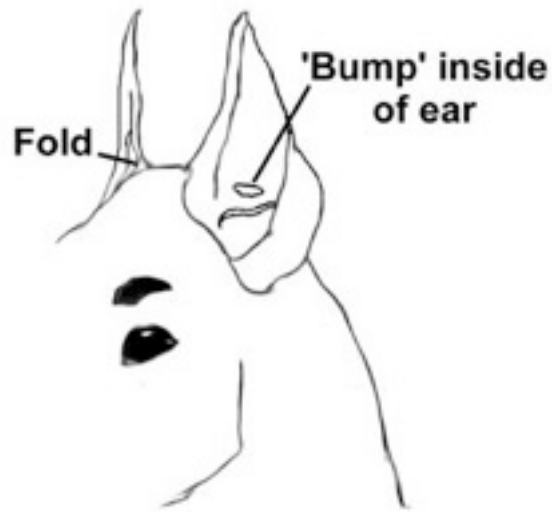

Figure 1
1. Foam pipe insulation, available at any hardware store. Cut these long enough to reach from the top of the "bump" (Figure 1) of the ear to just past the ear tip. Then cut lengthwise so that each appliance will be about 1 inch wide. Remove the plastic strip that protects the sticky side of the insulation.
Clean the ears well with alcohol and dry thoroughly. Next, using a couple Q-Tips, paint the ear with the Benzoin compound. Paint the inside of the ear from the "bump" (See Figure 1) to the tip. Paint the outside of the ear to the tip and pay particular attention to the outside of the base. Allow to dry until tacky, about 2-3 minutes.
Shake a small amount of the antibiotic powder in the little fold at the base of the ear on top of the head. (Figure 1). This will help prevent the "gooies" that usually start here.